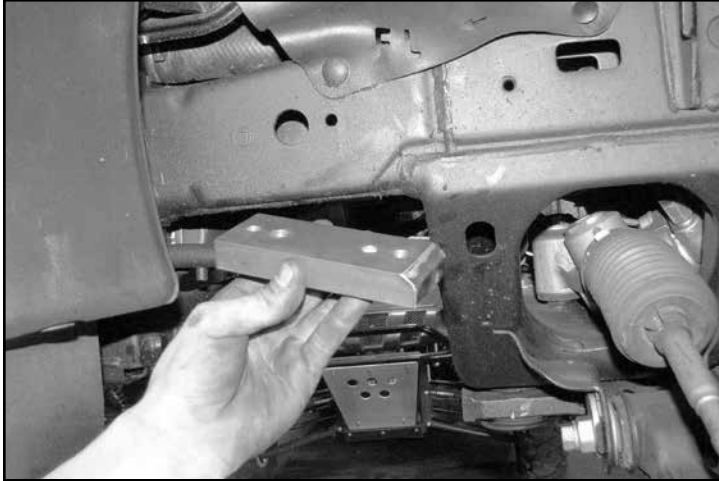

**FIGURE 15**
12. Locate FT94508 (FJ) or FT94509 (Tacoma) Uniball adapter pin, and two FT147 uniball misalignment spacers.
**SEE FIGURE 15 FOR STEPS 13-17**